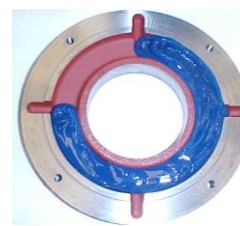

Figure 7.3: Outer bearing cap
- Fill up to $\frac{3}{4}$ of the inner and outer bearing cap deposits with the recommended grease (Figure 7.3) and lubricate the rolling bearing with enough grease before assembling it;
When the bearing is opened, inject the new grease through the grease nipple to expel the old grease found in the grease inlet tube, and apply the new grease in the rolling bearing, to the inner and outer rings, filling $\frac{3}{4}$ of the empty spaces, as shown in Figure 7.3. In case of double bearings (ball bearing + roller bearing), also fill $\frac{3}{4}$ of the empty spaces between the intermediate rings;